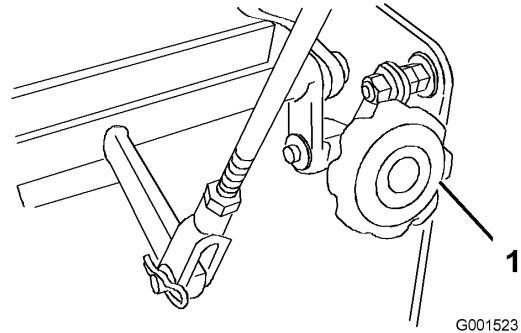

Figure 43
- If the unit tracks to one side or the other, turn the quick track knob. Turn the knob right to steer right and turn the knob left to steer left (Figure 43).